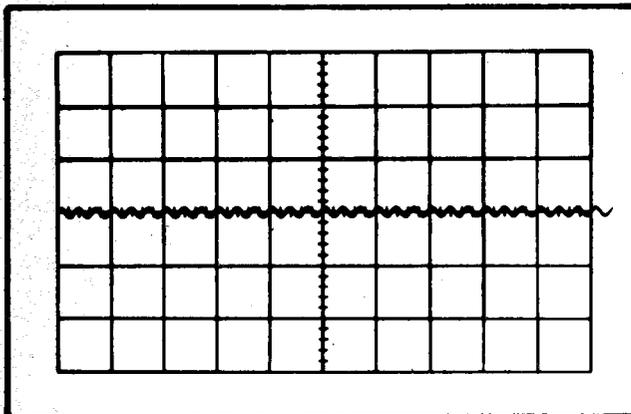

Fig. 5-15. Typical CRT display when checking low-frequency reject operation at 30 kilohertz.
c. CHECK-Stable CRT display (see Fig. 5-15) can be obtained with the A LEVEL control.
i. CHECK-Stable CRT display (see Fig. 5-15) can be obtained with the B LEVEL control.